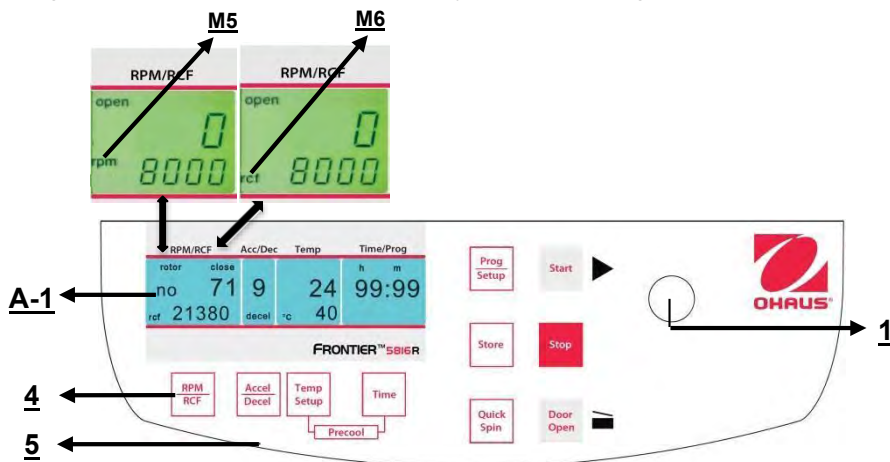

Figure. 16
This pre-selection is activated through the key **"RPM | RCF" (4)** (refer to figure 16 below). By pressing the key once the word **"rpm" (M5)** flashes. By pressing the key twice the pre-selection of the centrifugal forces can be selected. Then the flashing word **"rcf" (M6)** appears. You can set the desired values with the adjusting knob (1). In the display (A-1) the regulated value is shown permanently, before, during and after the run.